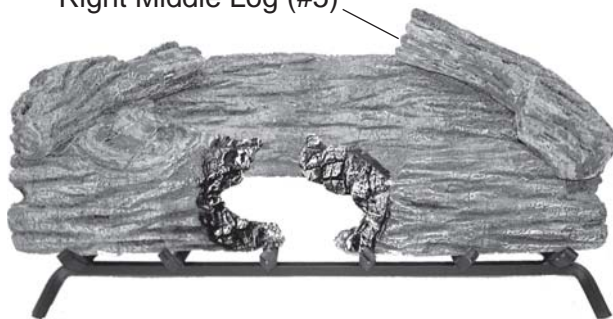

Figure 30 - Installing Right Middle Log (#5)
6. Install right middle log #5 as shown. *See Figure 30.*